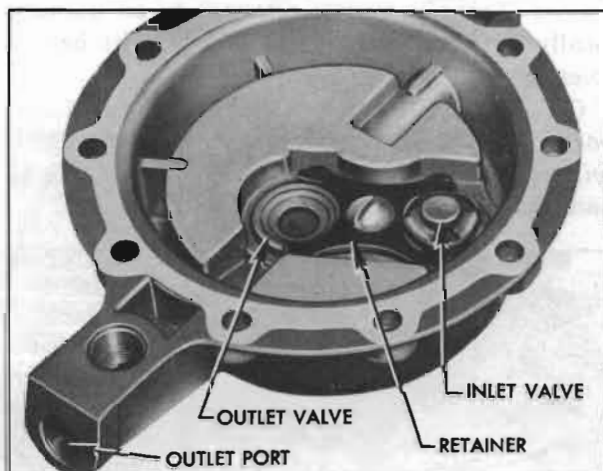

Figure 3-17—Valves and Retainer Installed in Fuel Cover—Type DH Pump
On Type DH (Series 70) pump, remove valves which are held in fuel cover by a retainer and screw. See figure 3-17.
3. Place a *new* valve gasket in each valve seat in fuel cover. Place one valve in seat nearest the inlet port with the spring cage side facing up. Place another valve in the outlet valve seat with the spring cage side down. See figure 3-17.
On *Type DH (Series 70)* pump place retainer over valves with humped side up and install retainer screw. See figure 3-17.